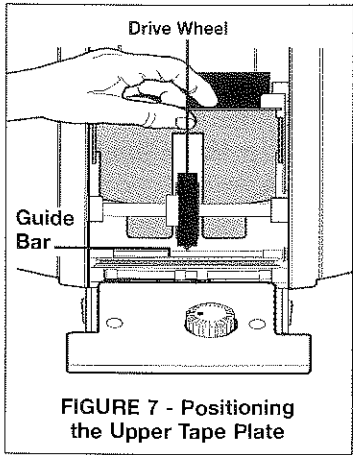

FIGURE 7 - Positioning the Upper Tape Plate
1. Hold the upper tape plate by its rear edge (see Figure 7), and guide it forward so that the front slot centers around the drive wheel.